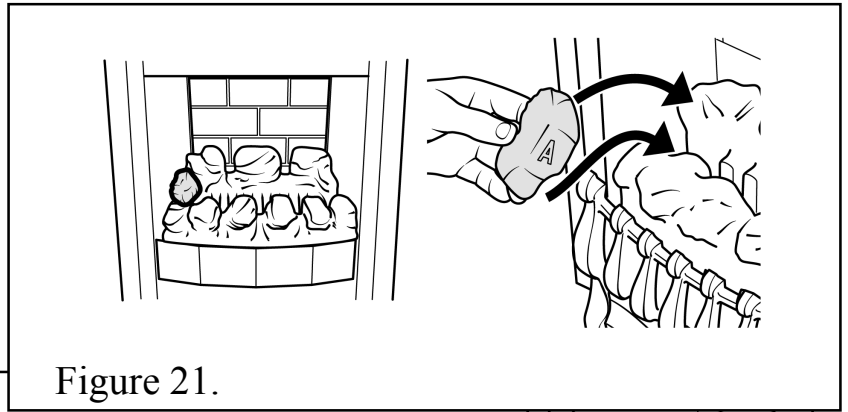

Figure 21.
4. Place a type “A” coal between the front and rear base coals with the letter “A” upright and so that the coal is against the left side of the firebox. See figure 21.